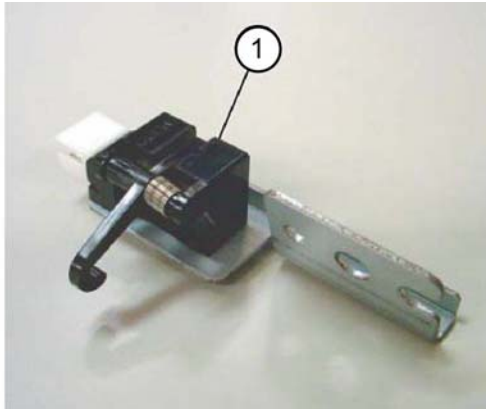

Figure 4 Finisher entry sensor removal
7. Remove the finisher entry sensor (1) from the bracket, Figure 4.